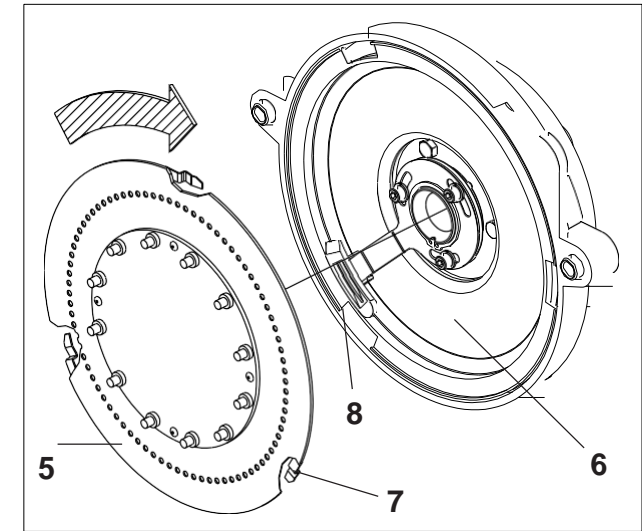

FIGURE 24
- 03 - After replacing the stainless steel perforated disc, repeat operations as shown in **FIGURE 24**, in the reverse direction.